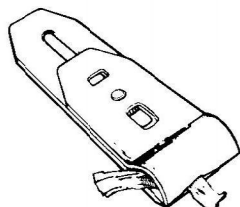

FIG. 14
**REMEDY:** Too coarse a cut - reduce depth of cut. Poorly fitting cap iron results in shaving passing between cap iron and cutter, - re-grind cap iron edge on oil stone (Fig. 14)
**PROBLÈME:** Traces de 'broutage' sur la surface du travail (Fig. 14).